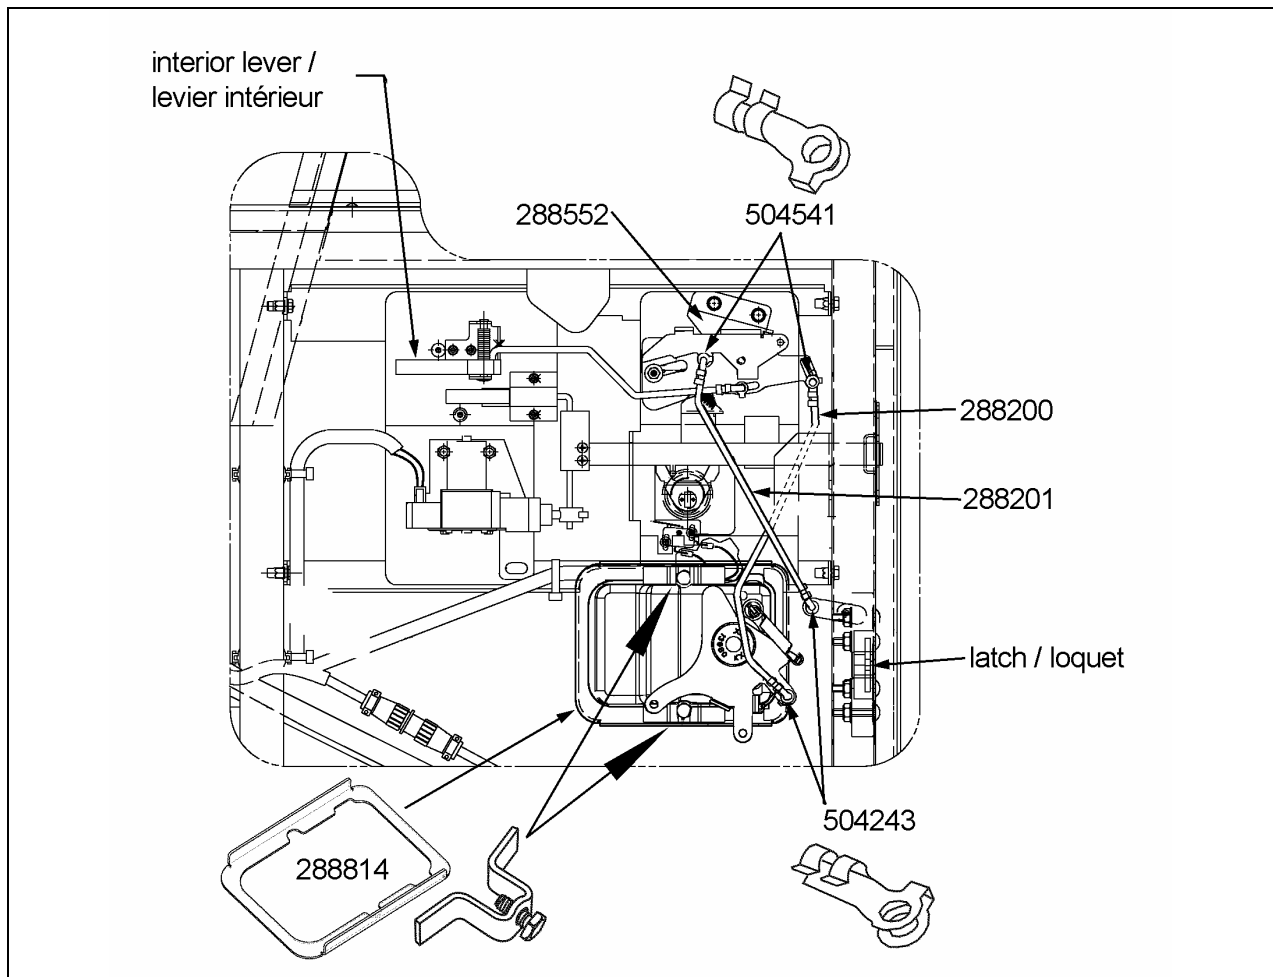

FIGURE 3: NEW INSTALLATION, REF. STEPS 7 TO 10
- Install the new handle. Fix in place using the holding plate #288814 on the interior side and the fixing parts shown in figure 3.
- Reattach the interior lever rod to the trigger assembly (figure 3).
- Install rods #288200 & #288201 as shown in figure 3. Use clips #504541 & #504243. Be careful not to invert the clips.
- 1- With the lock (figure 3) released (door in open position), actuate the interior lever at full stroke, adjust the lever rod length so that there is no tension applied to rod #288201 (adjust the length by changing the bending angles).